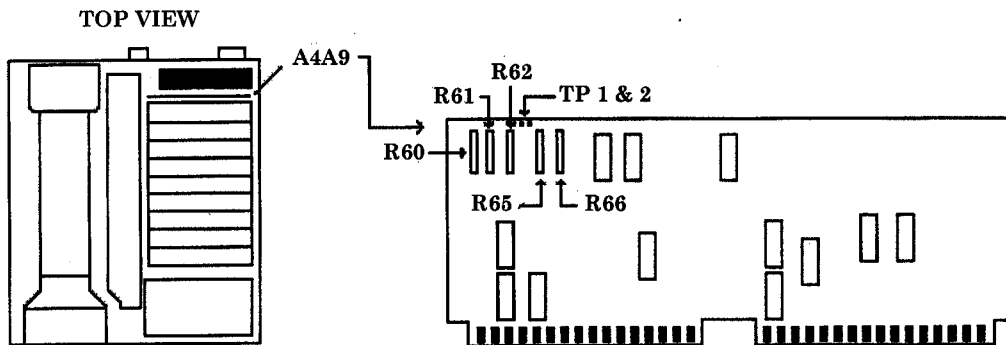

Figure 8. A4A9 board.
(3) Adjust **DATA** knob to position trace at (or just below) reference level (top) graticule line.
- (4) Press TI keys as listed in (a) through (d) below:
- (5) Using TI **DATA** knob adjust marker down the positive going side of the displayed signal to the -3 dB point.
- (6) Adjust A4A9R60 (fig. 8) for a **MKR Δ** indication of 1.5 MHz while maintaining marker at the -3 dB point using TI **DATA** knob (R).
(13) Using TI **DATA** knob adjust marker down the positive going side of the displayed signal to the -3 dB point.
(14) Adjust A4A9R61 (fig. 8) for a **MKR Δ** indication of 500 kHz while maintaining marker at the -3 dB point using TI **DATA** knob (R).
(15) Press TI **MARKER Δ** key.
(16) Using TI **DATA** knob, adjust marker to the -3 dB point on the negative going side of the displayed signal. There are now two markers; one on each side of the signal at the -3 dB points.
(17) TI **MKR Δ** indication should be 1.00 ± 0.10 MHz.
(18) Press TI keys as listed in (a) through (i) below:
(19) Adjust **DATA** knob to position trace at (or just below) reference level (top) graticule line.
(20) Press TI keys as listed in (a) through (d) below:
(21) Adjust TI **DATA** knob to place marker down the positive going side of the displayed signal to the -3 dB point.
(22) Adjust A4A9R62 (fig. 8) for a **MKR Δ** indication of 150 kHz while maintaining marker at the -3 dB point using TI **DATA** knob (R).
(23) Press TI **MARKER Δ** key.
(24) Adjust TI **DATA** knob to set marker to the -3 dB point on the negative going side of the displayed signal. There are now two markers; one on each side of the signal at the -3 dB points.
(25) TI **MKR Δ** indication should be 300 ± 30.0 kHz.
(26) Press TI keys as listed in (a) through (i) below:
(27) Adjust **DATA** knob to position trace at (or just below) reference level (top) graticule line.
(28) Press TI keys as listed in (a) through (d) below:
(29) Adjust TI **DATA** knob to place marker down the positive going side of the displayed signal to the -3 dB point.
(30) Adjust A4A9R65 (fig. 8) for a **MKR Δ** indication of 5 kHz while maintaining marker at the -3 dB point using TI **DATA** knob (R).
(31) Press TI **MARKER Δ** key.
(32) Adjust TI **DATA** knob to set marker to the -3 dB point on the negative going side of the displayed signal. There are now two markers; one on each side of the signal at the -3 dB points.
(33) TI **MKR Δ** indication should be 10 ± 1.0 kHz.
(34) Press TI keys as listed in (a) through (i) below:
(35) Adjust **DATA** knob to position trace at (or just below) reference level (top) graticule line.
(36) Press TI keys as listed in (a) through (d) below:
(37) Adjust TI **DATA** knob to place marker down the positive going side of the displayed signal to the -3 dB point.
(38) Adjust A4A9R66 (fig. 8) for a **MKR Δ** indication of 1.5 kHz while maintaining marker at the -3 dB point using TI **DATA** knob (R).